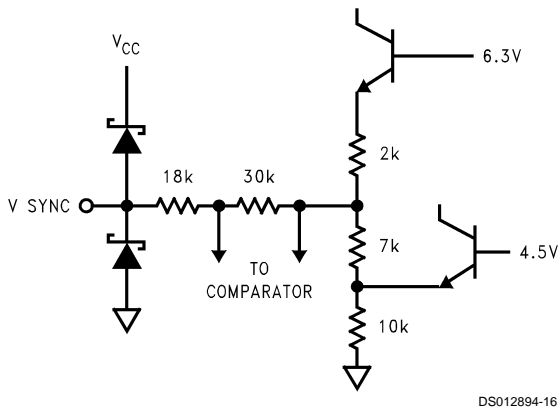

FIGURE 10.
**Pin 7. V SYNC:** This pin accepts AC-coupled V sync of either polarity. See *Figure 10* for the input schematic. The input sensitivity of this pin is about 1 VPP. For best noise immunity, a resistor of 10 k $\Omega$  in parallel with a filter capacitor of 0.01  $\mu\text{F}$  should be connected from the input side of the coupling capacitor to ground. The values of these components may be